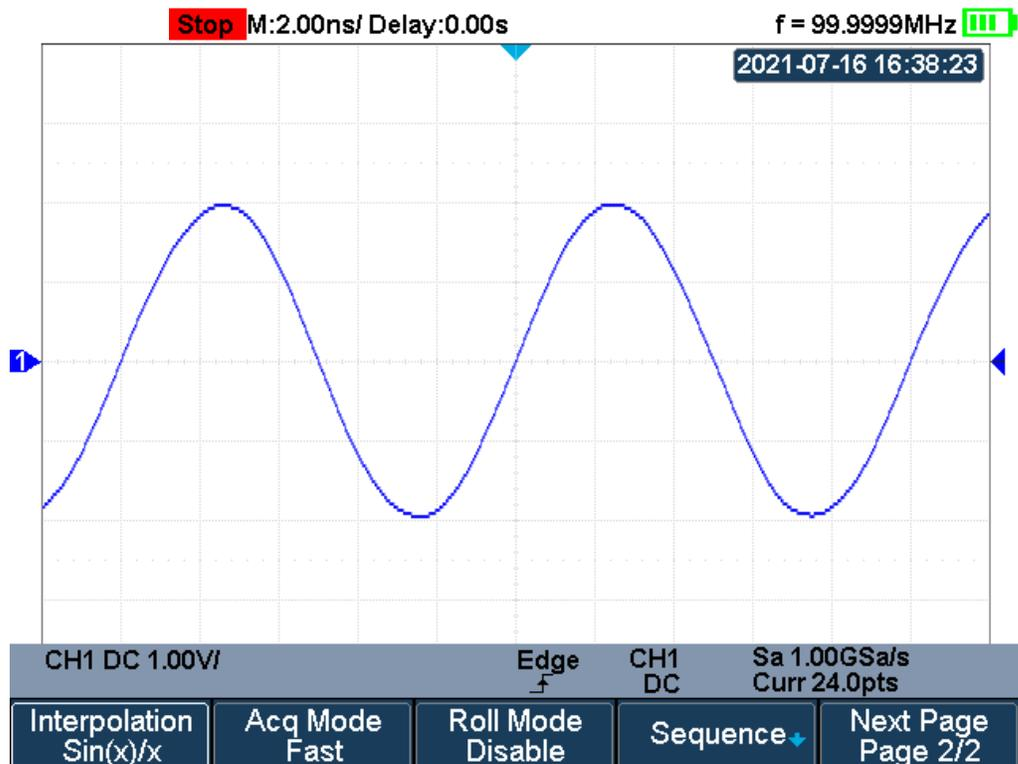

Figure 17 Sinx/x Interpolation
- **Sinx/x** (Figure 17): Connecting the sampling points with curves is more versatile. Sinx interpolation uses mathematical processing to calculate results in the actual sample interval. This method bends the signal waveform, and makes it produce a more realistic regular shape than pure square waves or pulses. When the sampling frequency is 3 to 5 times the bandwidth frequency of the system, the Sinx/x interpolation method is recommended.